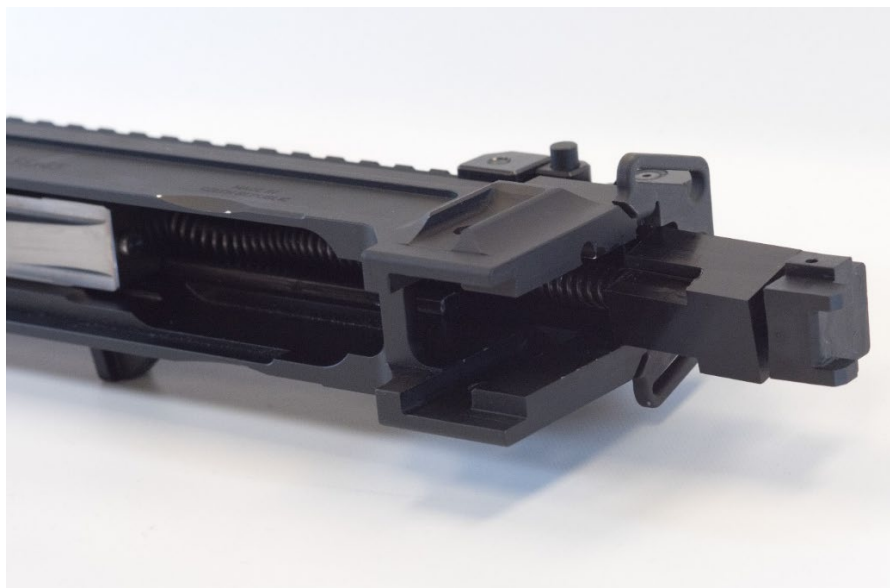

Figure 12: Recoil Buffer Orientation
- Make sure VirTra Recoil Buffer and Factory Buffer are oriented as shown in Figure 12.